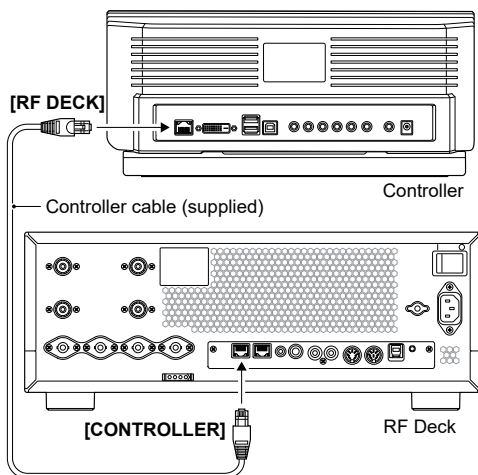

Figure 09-4. Direct connection
- 1). You must connect the supplied Controller cable as shown in Figure 09-4 before turning ON the power.